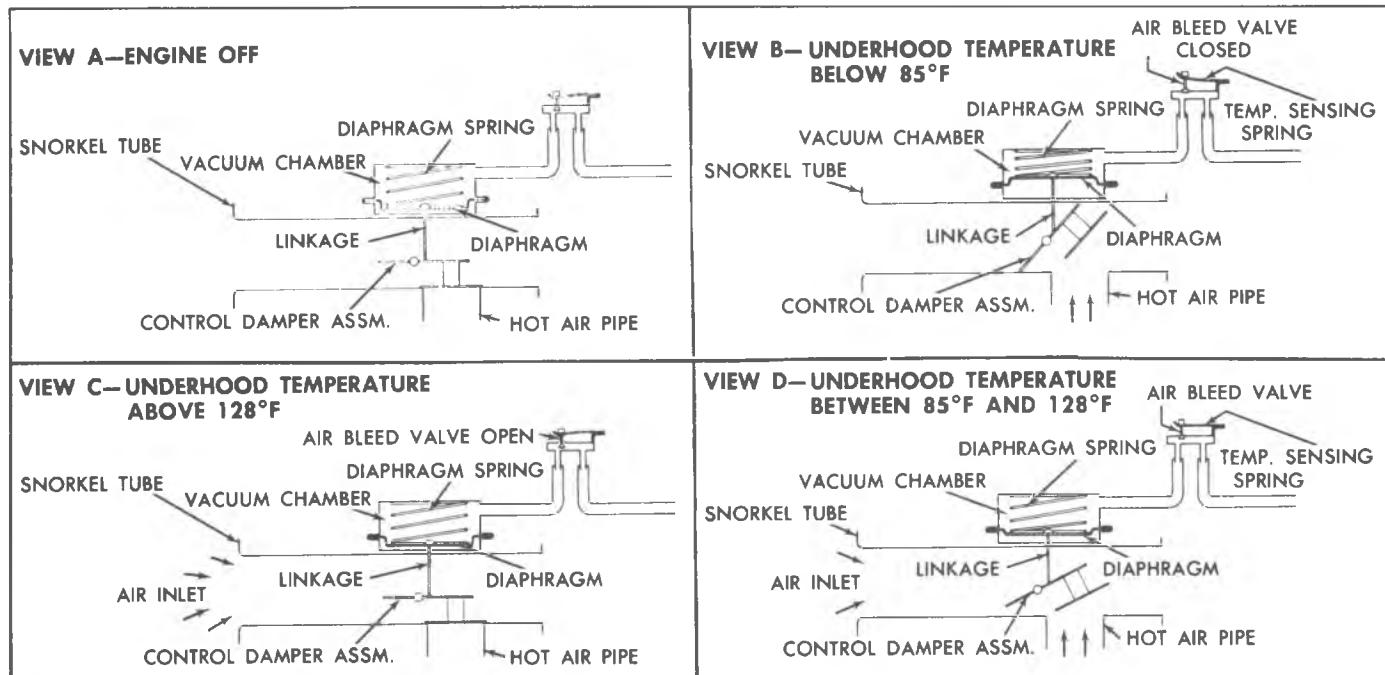

Fig. 11A--Air Cleaner Operation
position through snorkel opening. Snorkel passage should be open. Fig. 11A, View A. If not, check for binds in linkage.
3. Start and idle engine. With air temperature below 85 degrees F, snorkel passage should be closed. Fig. 11A, View B. When damper door begins to open snorkel passage, remove air cleaner cover and observe thermometer reading. It should be between 85 degrees F and 115 degrees F.